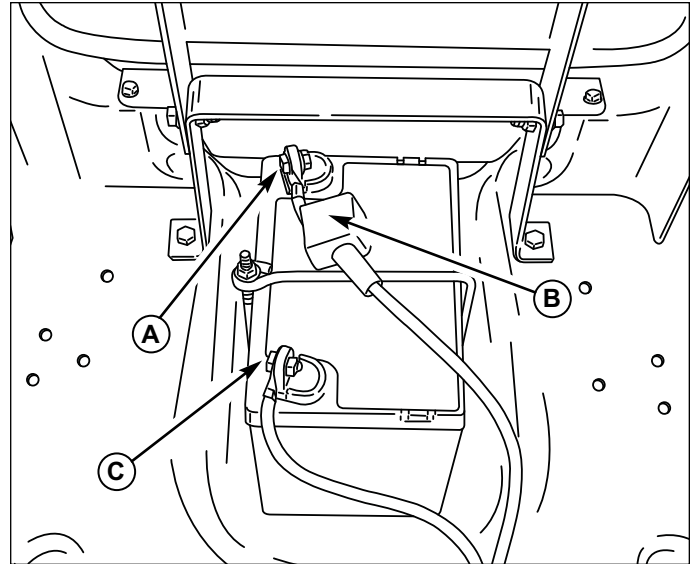

Figure 30. Battery Compartment
1. Disconnect the cables from the battery, negative cable first (C, Figure 30).
3. Reinstall the battery and reattach the battery cables, positive cable first (A).
5. Be sure to replace the terminal cover (B) over the positive battery terminal.